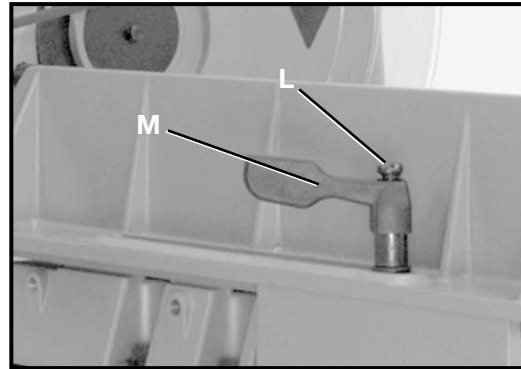

Fig. 7J
9. Position lock handle (M) Fig. 7J, on stud and replace screw and spring (L) that were removed in **STEP 7**. **NOTE:** Lock handle (M) is spring-loaded and can be repositioned by lifting up on handle.